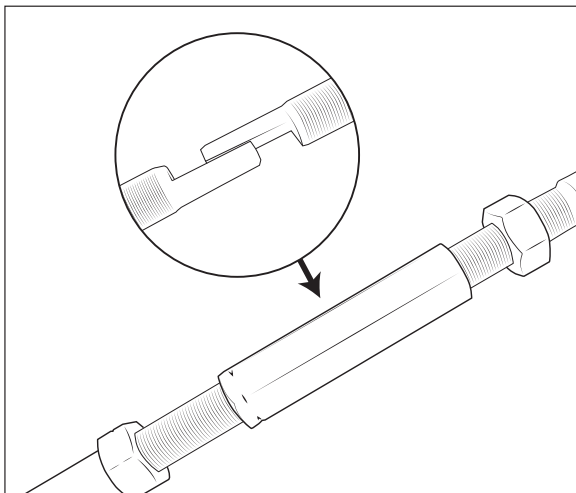

Figure 34
- a. Thread the factory jam nut onto the AEV drag link (fig. 34).
- b. Thread the adjuster sleeve onto the AEV drag link and the drag link end at the pitman arm end at the same time. Thread it all the way to the jam nut that was left in position on the pitman arm side (fig. 34).